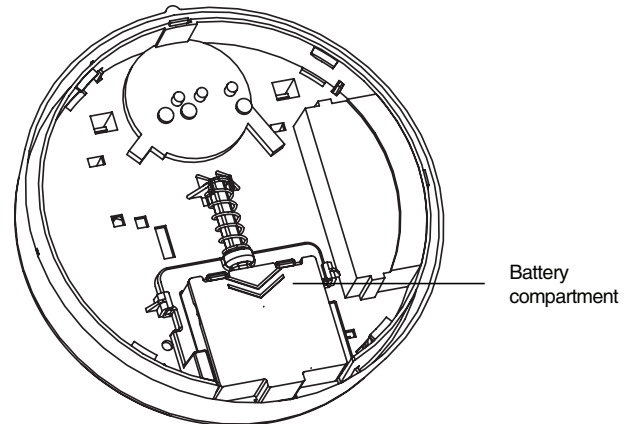

Figure 2. Battery Compartment
1. Slide the battery compartment cover away from the unit to unsnap it and lift it off. See Figure 2.
2. Slide the battery compartment cover away from the smoke alarm to unsnap it and lift it off. See Figure 2.